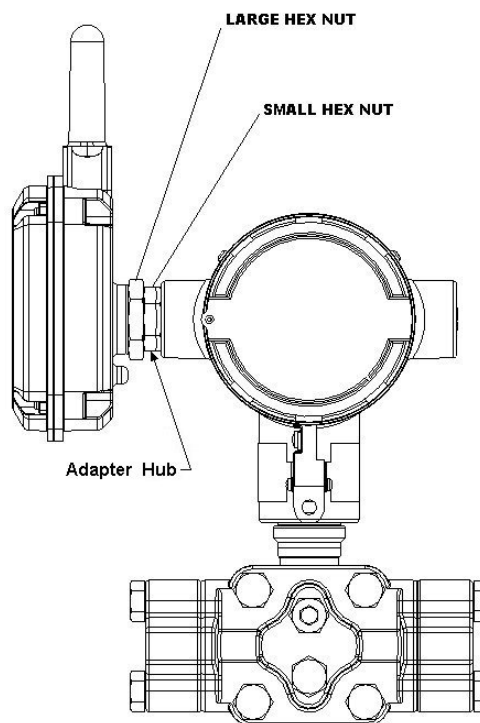

Figure 3-2 Installation, Back view
4. Insert wires through conduit entry of the unit to which it is to be mounted then start to thread the adapter hub into the conduit entry. Use the hex on the adapter hub (smaller hex - See Figure 3-2)) to securely tighten the adapter hub to the unit (See Note). To reorient the antenna of the adapter loosen the jam nut (Turn larger hex nut CC when looking at the front of the OWA 100 Adapter) and rotate the unit to the desired antenna location then retighten the jam nut to 9 N.m / 7lb-foot.